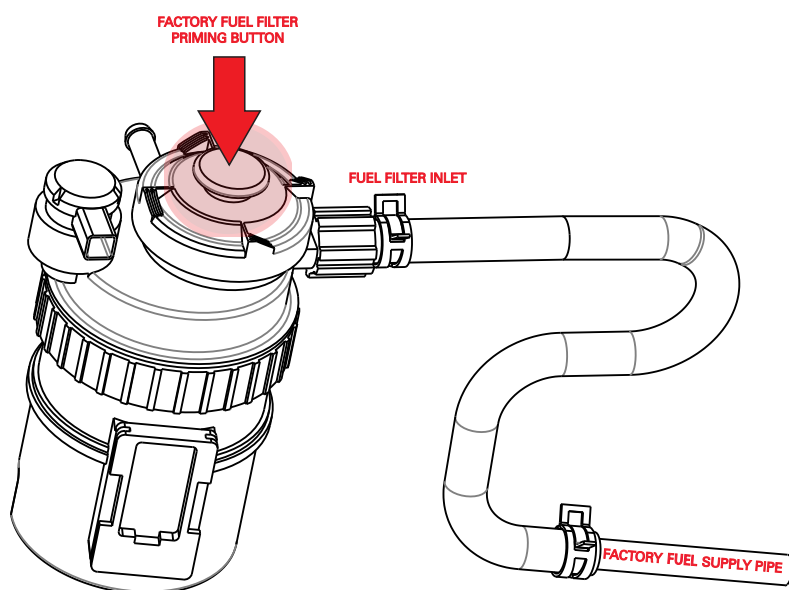
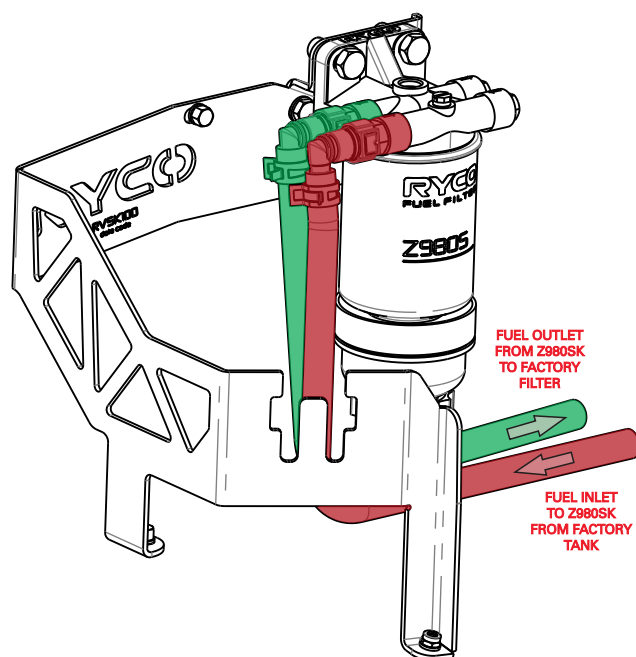

FIG. 5 FACTORY HOSE IDENTIFICATION
FIG. 6 FUEL WATER SEPARATOR INSTALLATION
1. Locate the factory fuel supply line by starting at the fuel inlet port of the factory fuel filter. Loosen the factory fuel hose clamp and disconnect the fuel supply line from the factory filter, as per Fig. 5. Have a rag ready to capture any diesel that may spill out of the fuel line and the fuel filter.
2. Trace the other end of the fuel supply line and disconnect it from the metal factory fuel supply pipe, as per Fig. 5. Remove the factory fuel supply line from the vehicle and store for safe keeping. Have a rag ready to capture any diesel that may spill out of the fuel lines.
3. Mount the Z980SK assembly onto the RVSK100 metal bracket using the two (2) black M10 bolts supplied with the Z980SK.
4. Connect one of the supplied fuel hoses to the inlet port of the Z980SK (coloured brown in Fig. 6) by pushing the elbow connector onto the metal quick connector until you hear a "click", and route the other end under and up past the factory ABS module pipes and brake fluid reservoir. Continue the hose along the top of the factory AC pipes, and along the factory powertrain harness at the back of the engine bay, as per Fig. 7. Connect the end of the fuel hose to the factory fuel supply pipe ensuring no sharp bends in the hose and secure with a supplied fuel hose clamp.
5. Connect the second hose to the outlet port of the Z980SK (coloured green in Fig. 6) by pushing the elbow connector onto the metal quick connector until you hear a "click", and route the other end similar to Step. 4 as per Fig. 6. Connect the end of the fuel hose to the factory fuel filter and secure with a supplied fuel hose clamp.